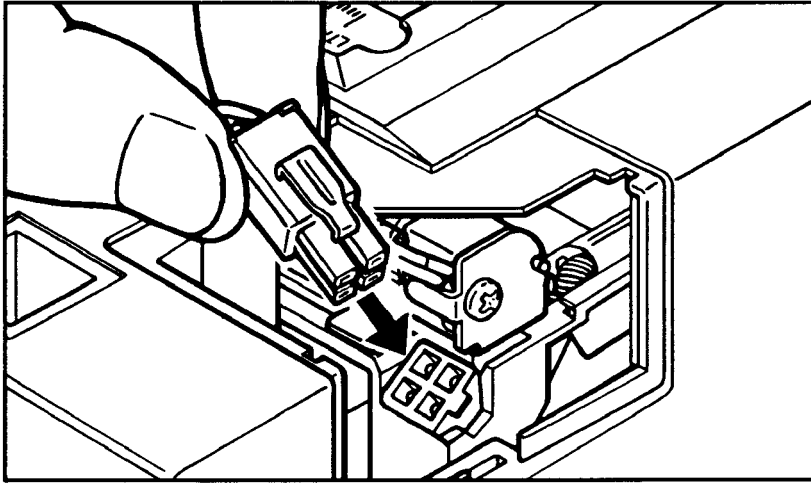

Figure 24. Plugging In the Lamp Connector
- 15.** Plug in the lamp connector by depressing the side clip and plugging it into the socket. See figure 24.